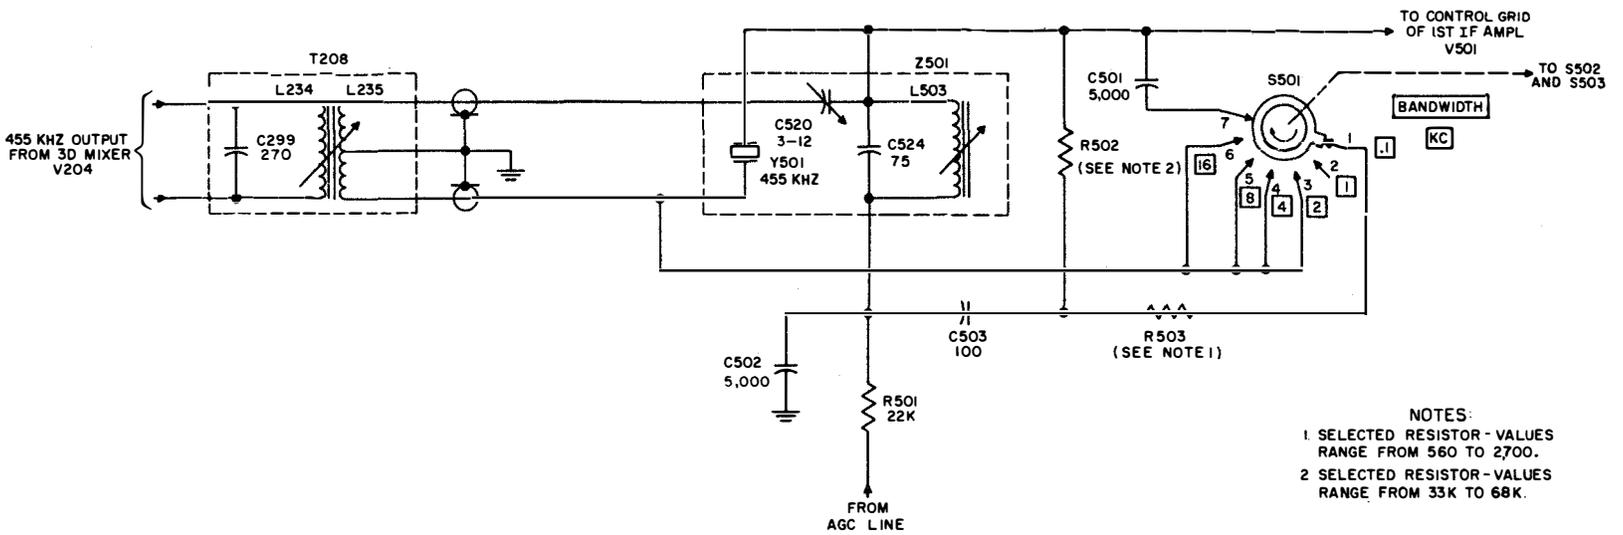

Figure 3-4. Crystal Filter, Simplified Schematic Diagram
3.2.9.1 The crystal filter (figure 3-4) is used to obtain selectivities of 0.1 and 1 kHz. When the BANDWIDTH switch is set to .1 or 1, this filter is connected between the output of third mixer V204 and the input to first IF amplifier V501. The 455 kHz output signal is coupled from third mixer transformer T208 to crystal filter Z501. The crystal passes only those signals at or very close to 455 kHz. Crystal holder and stray capacitances are neutralized by adjusting C520. Coil L503 and capacitor C524 are tuned to 455 kHz.